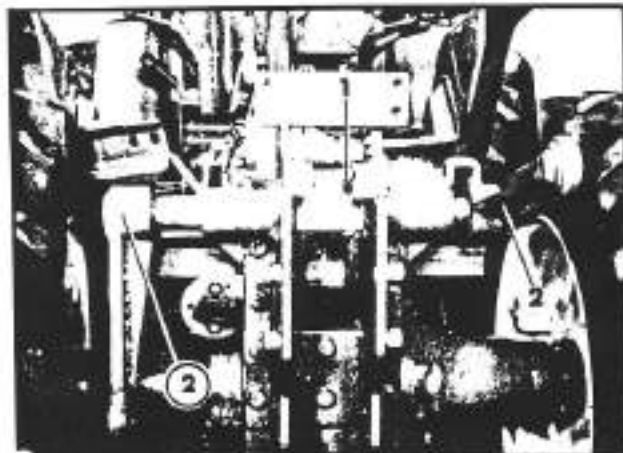

Fig. 3-79. Removal of the lifting arms
- c. Remove the two socket head screws from the two lifting arms of the power - lift (1; fig. 3-79) and take off the two arms (2; fig. 3-79).